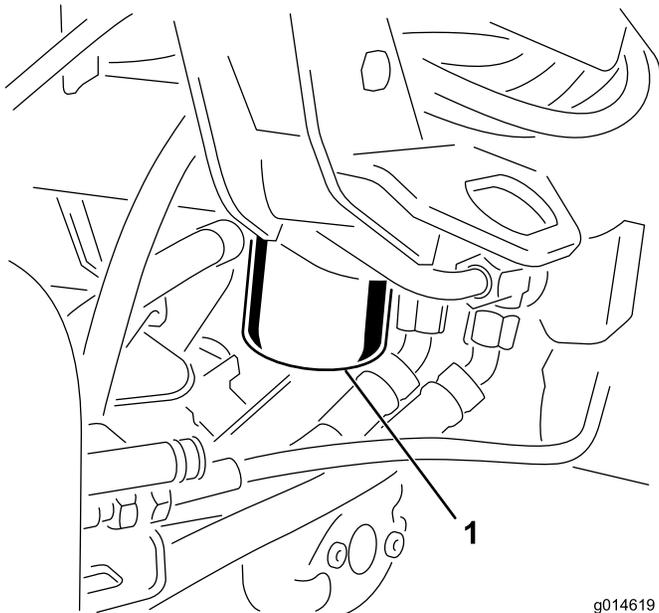

Figure 58
1. Clean the area around the filter mounting area (Figure 58). Place a drain pan under the filter and remove the filter.